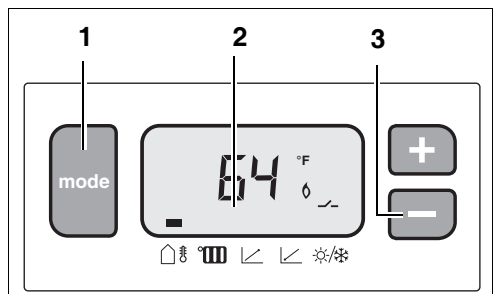

Fig. 10 Display view
Use the "Mode" key (fig. 10, pos. 1) to go through the various menu items "⏠ ⏪ ⏩ ⏹ ⏸ ⏶ ⏷"; a line (fig. 10, pos. 2) on the display indicates the active menu item.
The value of a menu item which can be set will flash. The value can then be changed using the plus "+" and minus "-" (fig. 10, pos. 3) keys. The settings will not be lost if there is a power outage.